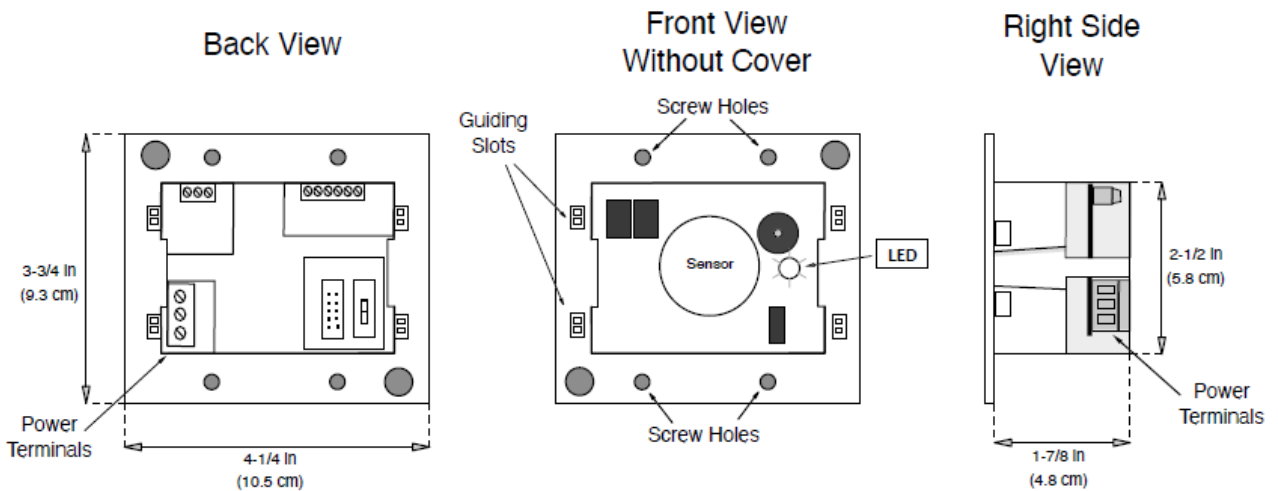

Figure 5
- Cover should be fully inserted and aligned to the sensor head using the guiding slots on the face of the sensor plastic housing (see figure 5)